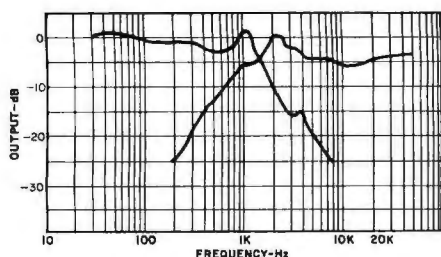

Fig. 3. Idealized response of Fig. 1 may actually be like this.
Low-level crossover networks have a further advantage in that the termination is purely resistive and unvarying. Part of the problem with passive networks introduced between the amplifier and speaker system is that they are presumed to terminate in a constant impedance when in fact the impedance of each driver coupled to the network varies widely with frequency. Consequently, the carefully chosen capacitor and inductor values seldom yield the optimized transfer characteristic shown in Fig. 1B. In fact, a typical curve might exhibit a somewhat random transfer characteristic as in Fig. 3.
Fig. 3. At (A) is 50-Hz, 20-V amplifier output tone; (B) is 1000-Hz tone at same amplitude; (C) is (A) and (B) combined with twice the voltage and four times the power.